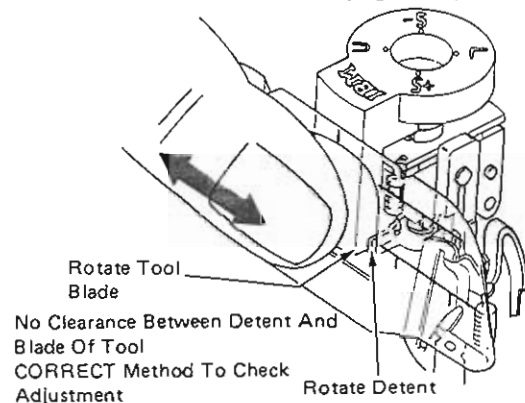

Figure 29 - No Clearance Between Blade And Detent
1. No clearance exists between the blade of the rotate tool and the rotate detent (Figure 29).